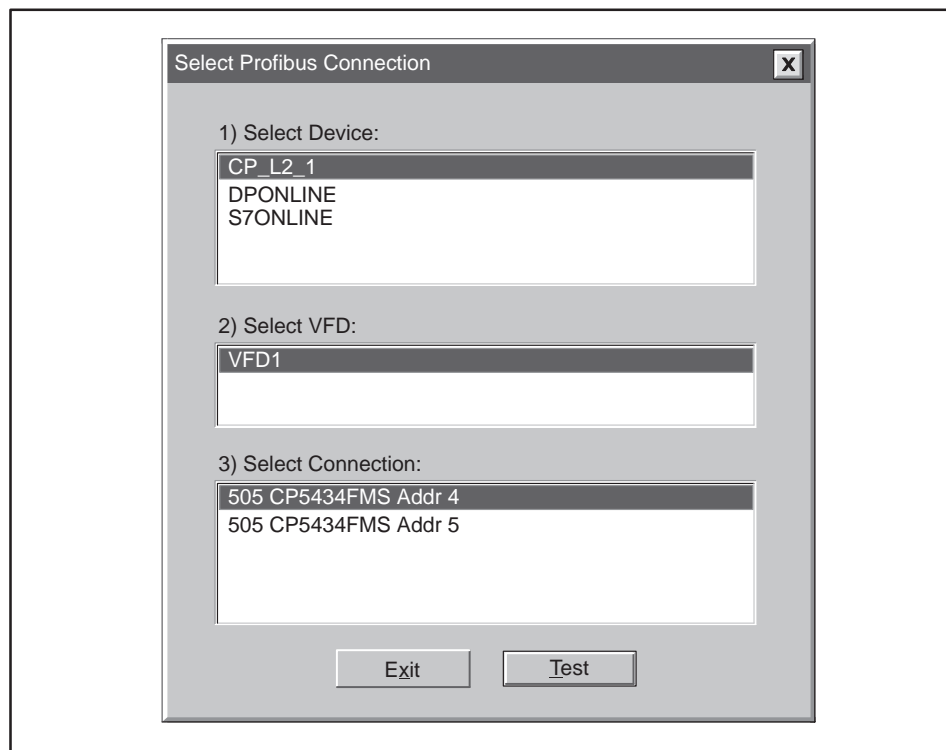

Figure 5-4 PROFIBUS Connection Dialog
2. Click on the “Configure Port” button to access the Select PROFIBUS Connection Dialog, shown in Figure 5-4.